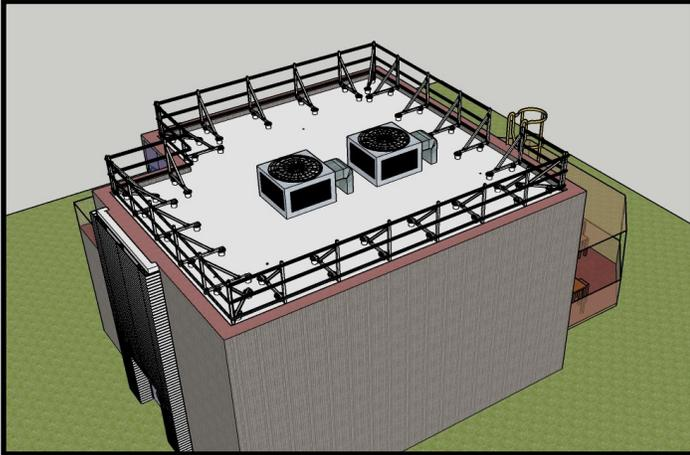

Fig 14
12. Complete installing all of the Hat Tracks as shown in fig 14.